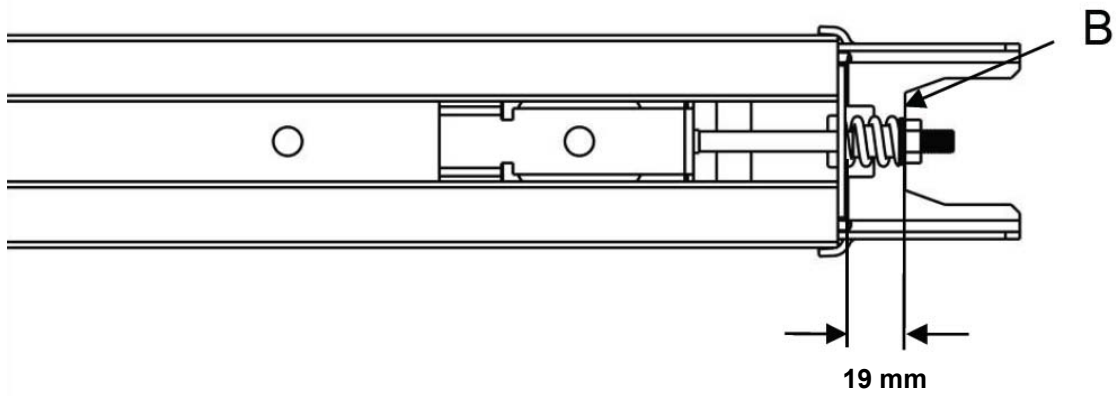

FIG. 9
- Tight the nut to the right position as shown in Fig.9, cut the plastic cable tie on sprocket, then whole rail assembled finished.